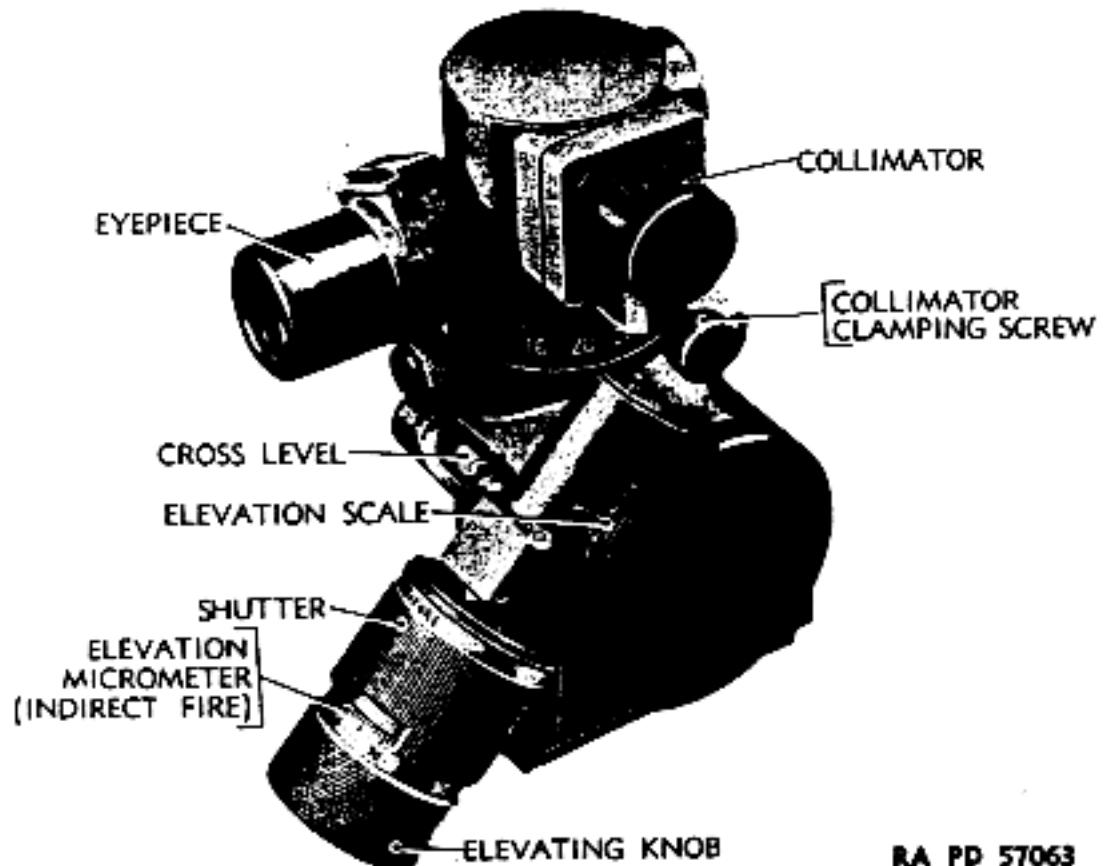

Figure 44 - Telescopic Sight for German 7.9-mm Dual Purpose Machine Gun MG34 - Rear View
(1) Turn the shutter to "INDIREKT" (fig. 44), exposing the elevation micrometer. Set the required elevation, in mils, on the elevation scale and elevation micrometer. The required setting for any given target will be the angle of site (in mils) plus the range elevation (in mils) plus 300 mils. Range elevation in mils can be read on the Overhead Firing Table (figs. 36 and 37).
(2) Set the azimuth scale and azimuth micrometer to the required deflection.
(3) Keep the machine gun leveled laterally to eliminate error due to cant. The machine gun is properly leveled when the cross-level bubble is centered.
(4) Traverse the machine gun while looking through the telescope eyepiece until the aiming point is centered in the telescope reticle. Elevate the machine gun until the cross-level bubble is centered.